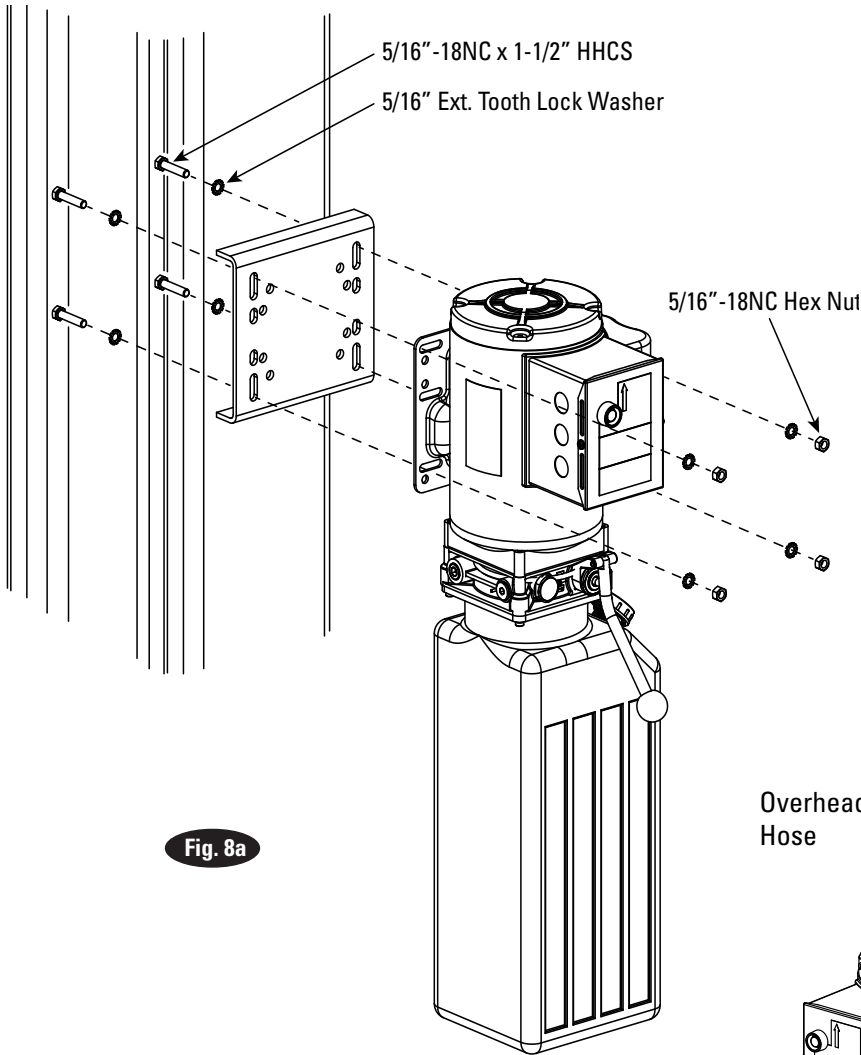
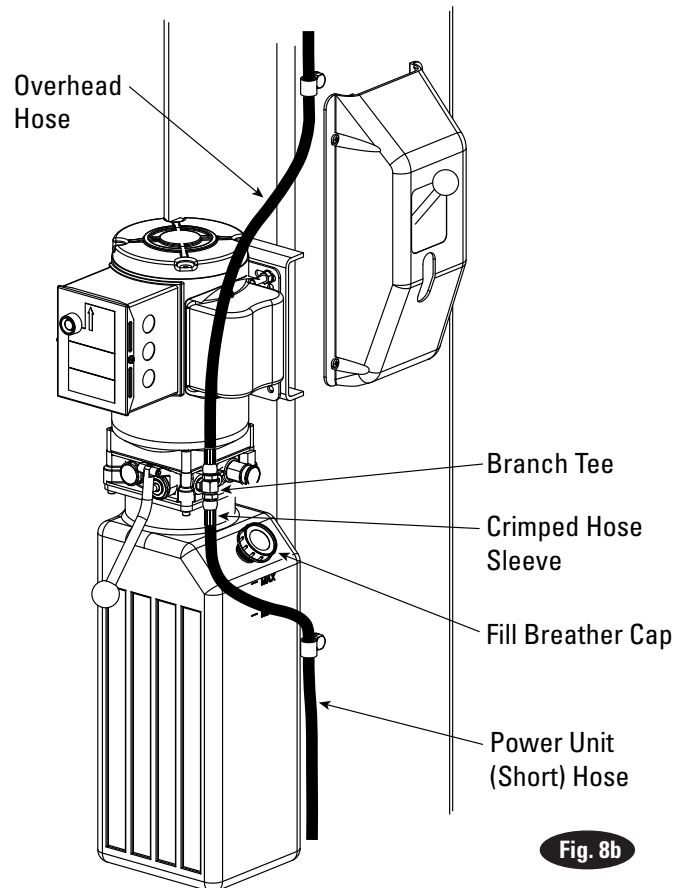

Fig. 8a
Fig. 8b
**9. Power Unit:** Put the (4) 5/16" -18NC x 1-1/2" HHCS thru holes in power unit bracket using (4) 5/16" Ext. Tooth Lock Washers. Mount power unit with motor up to column bracket and install (4) 5/16" Ext. Tooth Lock Washers and (4) 5/16" -18NC Hex Nuts, Fig. 8a. Install and hand tighten Branch Tee to pump until O-ring is seated. Continue to tighten the locknut to 10-15 ft-lbs., or until the nut and washer bottom out against the pump manifold, Fig. 8b.
**10. Hoses:** Clean adapters and hose. Inspect all threads for damage and hose ends to be sure they are crimped, Fig. 8b. Install hose and hose clamps, Fig. 9.
- A) Attach Mounting Bracket on column as shown in Fig. 16a using (2) 5/16" -18NC x 1-1/2" HHCS, (2) 5/16" -18NC Hex Nuts, and (2) 5/16" Ext. Tooth Washers, shown in Fig. 8a.
- B) Attach Control Box to Bracket using (4) 1/4" -20NC x 1/2" HHCS, (4) 1/4" Flat Washers, and (4) 1/4" Star Washers.